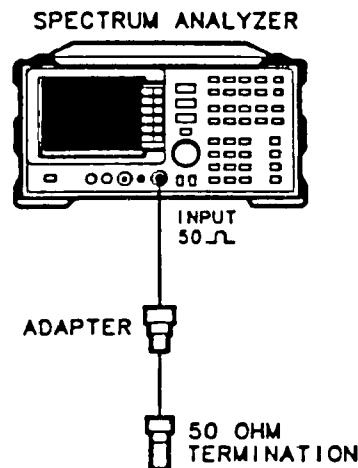

Figure 3-3. Displayed Average Noise Test Setup
4. Connect the HP 909D 50 Ω termination to the HP 8562A/B INPUT 50 Ω as shown in Figure 3-3.